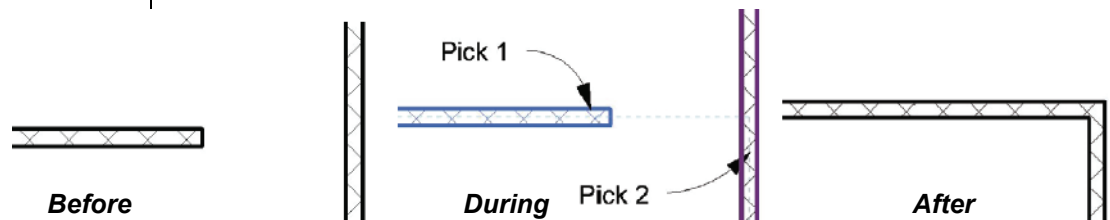

Figure 5–31
3. Select the second wall or line on the side that you want to keep, as shown in Figure 5–31.